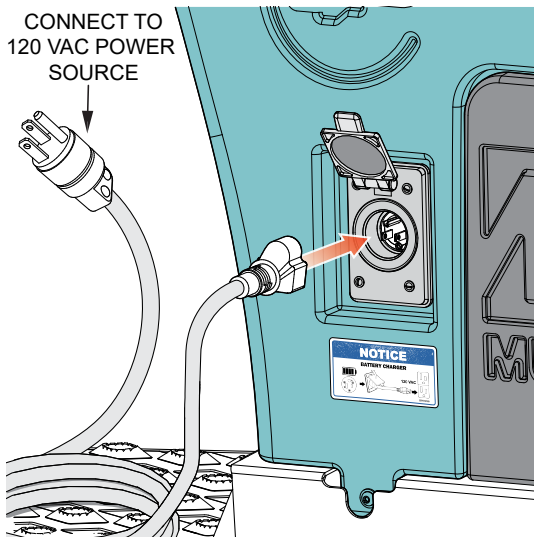

**Figure 38. Turning On Machine**
- Turn on the ignition key and verify that the digital display shows the correct battery charge and verify that the operation is correct (Figure 38).